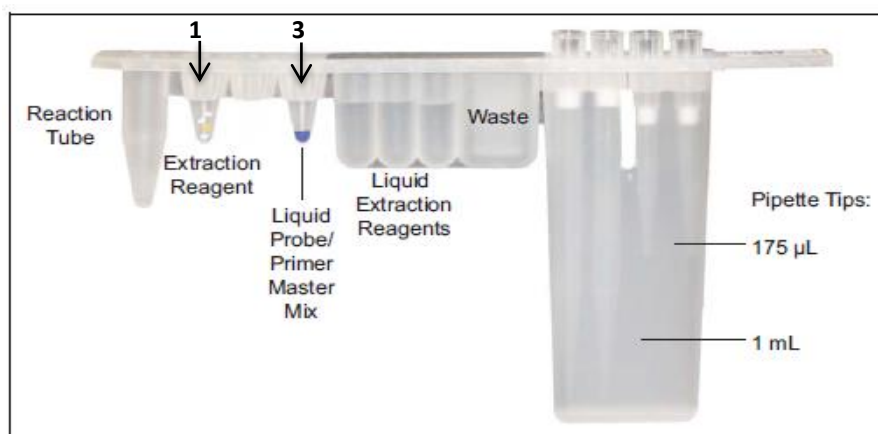

Figure 1: DNA Unitized Reagent Strip setup.
- 2.2.b Snap a DNA extraction BD Exk-1 Reagent tube (white seal) into position **1** of the DNA Strip, see Figure 1.
- 2.2.c Snap a CPE Screen reagent tube (blue seal) into position **3** of the DNA Strip, see Figure 1.